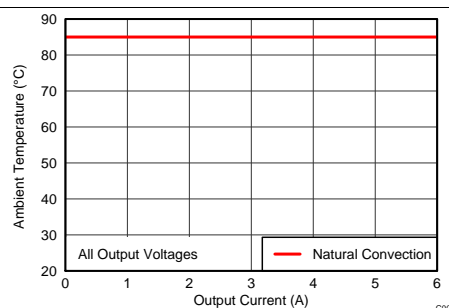

Figure 4. Safe Operating Area
- (9) The temperature derating curves represent the conditions at which internal components are at or below the manufacturer's maximum operating temperatures. Derating limits apply to devices soldered directly to a 100 mm × 100 mm double-sided PCB with 1 oz. copper. Applies to Figure 4.